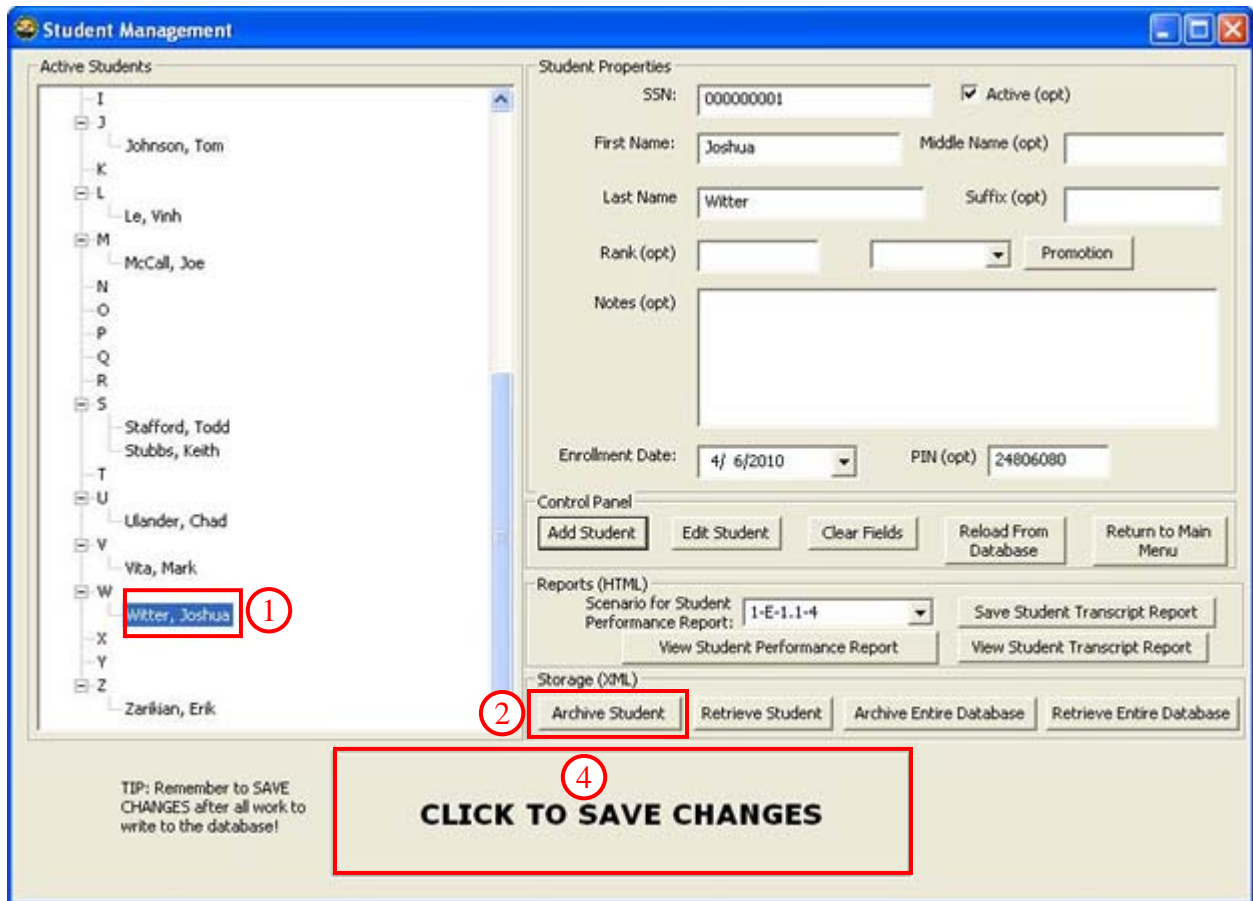

Figure 59. Student Management - Archive Student
1. Select a student from the Active Students list (Figure 59).
4. To permanently remove the student from the database, select the [CLICK to SAVE CHANGES] button (Figure 59).